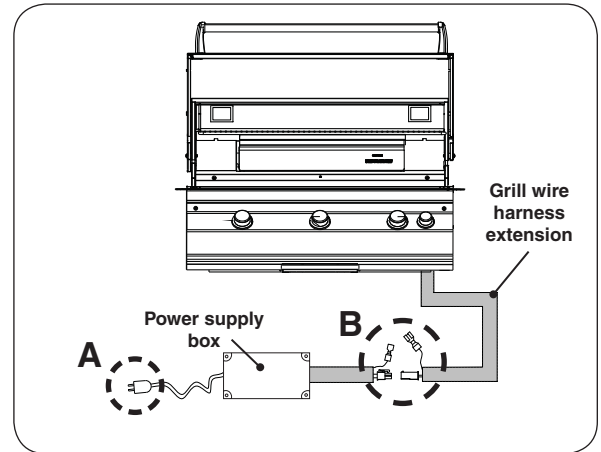

Fig. 13-2 Disconnect grill connections
1. Locate the power supply box inside of the island enclosure and disconnect the power cord (See Fig. 13-2, **A**).
2. Disconnect the grill wire harness extension connectors from the power supply connectors. See Fig. 13-2, (**B**)